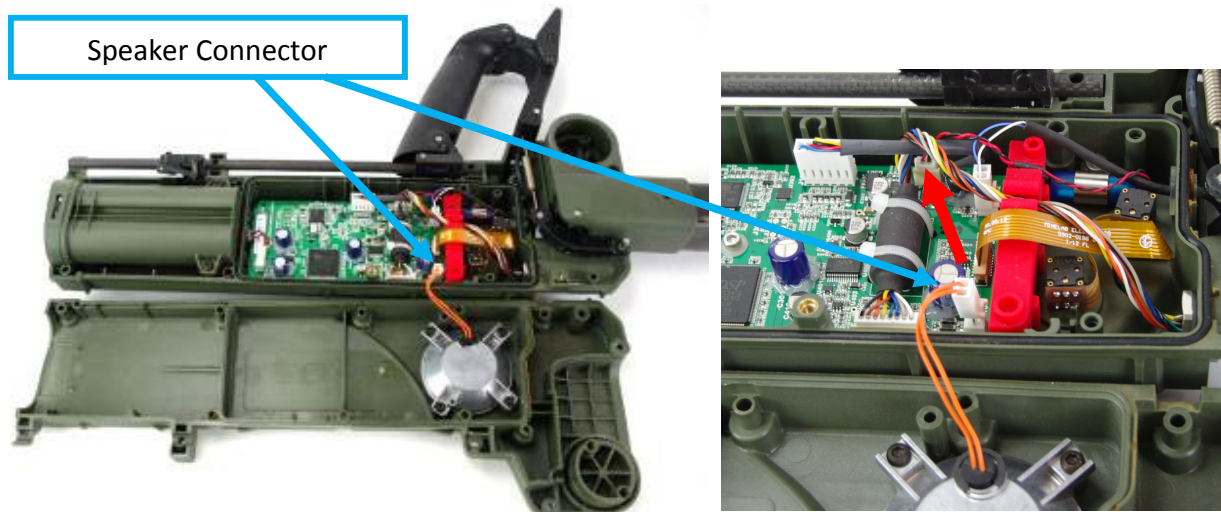

Figure 13: Disconnecting Speaker Connector
- Gently lift the right side off the left body half taking care not to pull or stretch the speaker cable and connector. Figure 13.